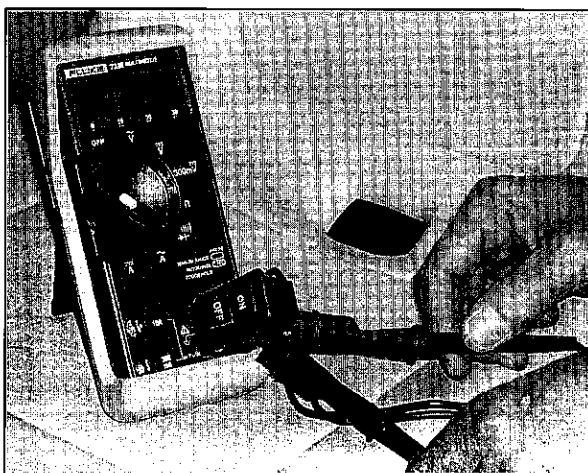

Fig. 37
2. Attach one meter test lead to each terminal on the switch, Fig. 37. Activate switch.